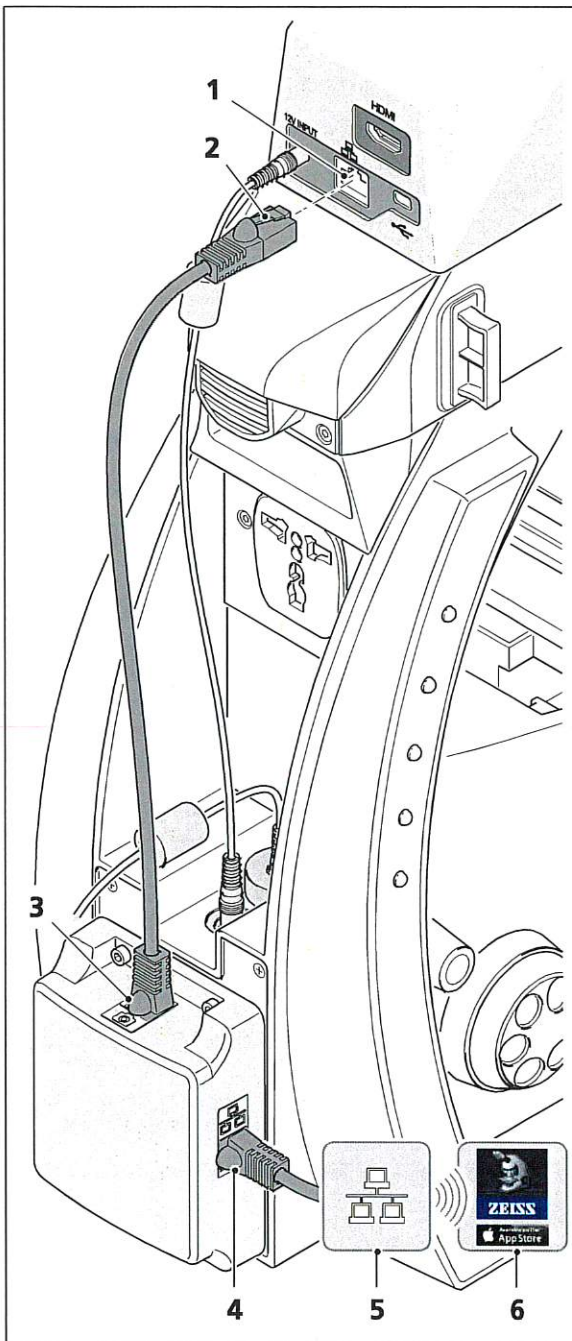

Fig. 9 Establishing a network connection
To do this, insert one plug (Fig. 9/2) of the short Ethernet cable into the jack on the reverse side of the binocular tube 30°/20 (Fig. 9/1).
- Insert the other plug of the Ethernet cable into the jack of the MNA (Fig. 9/3).
- Insert one plug of the other Ethernet cable into the jack on the side of the MNA (Fig. 9/4) and connect the camera into the network.
The integrated camera will identify itself automatically to the network (Fig. 9/5) on DHCP (Dynamic Host Configuration Protocol) and will be automatically recognized by Matscope, provided the iPad (Fig. 9/6) is in the same network.